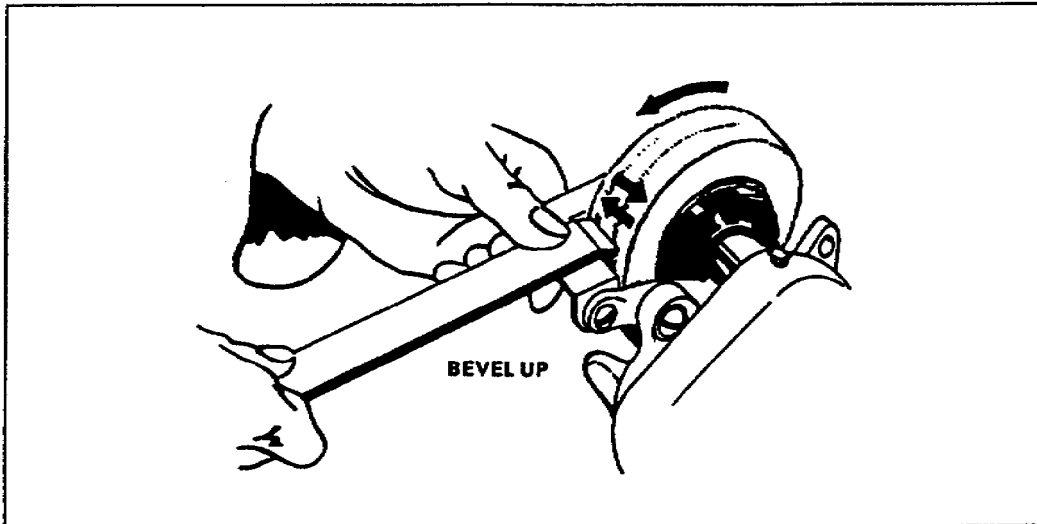

Figure 2-22. Grinding a chisel cutting edge
(3) Grinding a Wood Chisel. To grind a wood chisel, first square the cutting edge. To do this, hold the chisel at a right angle to the grinding wheel with the bevel up and move it from side to side (Figure 2-22). Dip the chisel in water frequently to avoid loss of temper. Check the edge with a small square to be sure the edge is at a right angle to the sides of the blade.